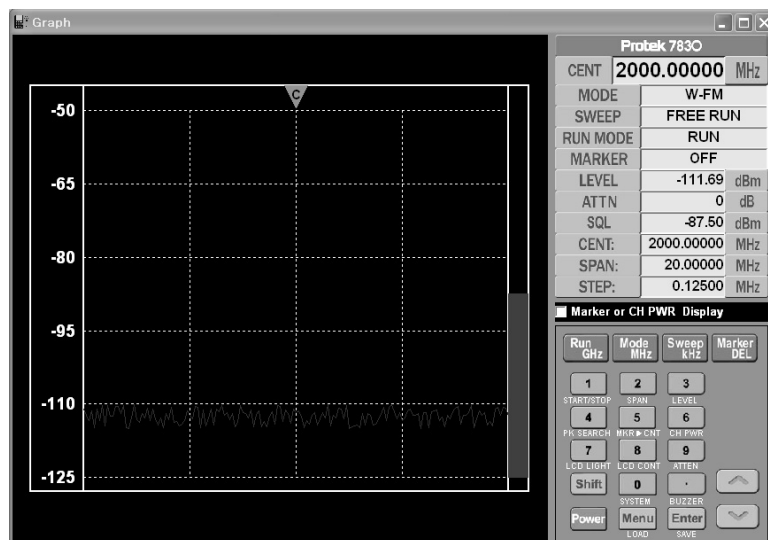

Figure 4.12. Graph window
- 2) Main menu display → select graph or click two times measuring instrument GUI of LCD display window. As figure 4.12 execute graph window.